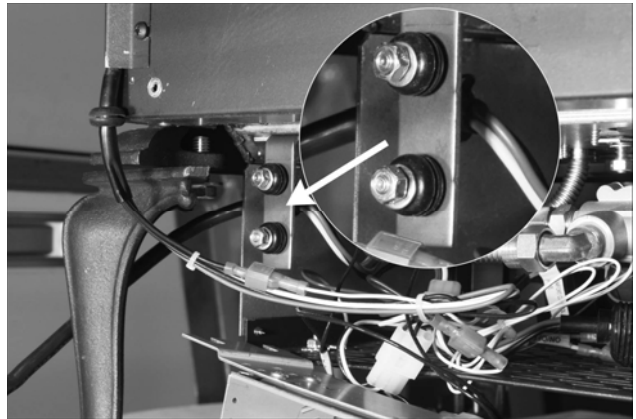

Figure 9
10. Place a black rubber grommet (with a brass insert) over the two threaded studs in the fan mounting bracket on the stove at your left as you face the back of the stove. Place a flat washer over each stud and thread on a hex lock nut. Tighten the nuts so the nut is flush with the end of the stud. Use an 11/32 driver. See Figure 9.